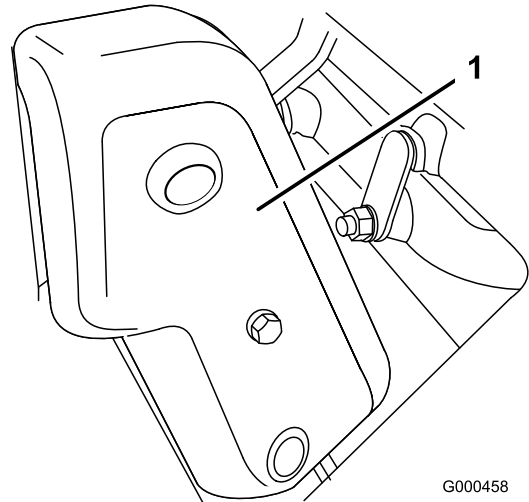

Figure 36
1. Remove the belt cover mounting fasteners and belt cover to expose belt (Figure 36).